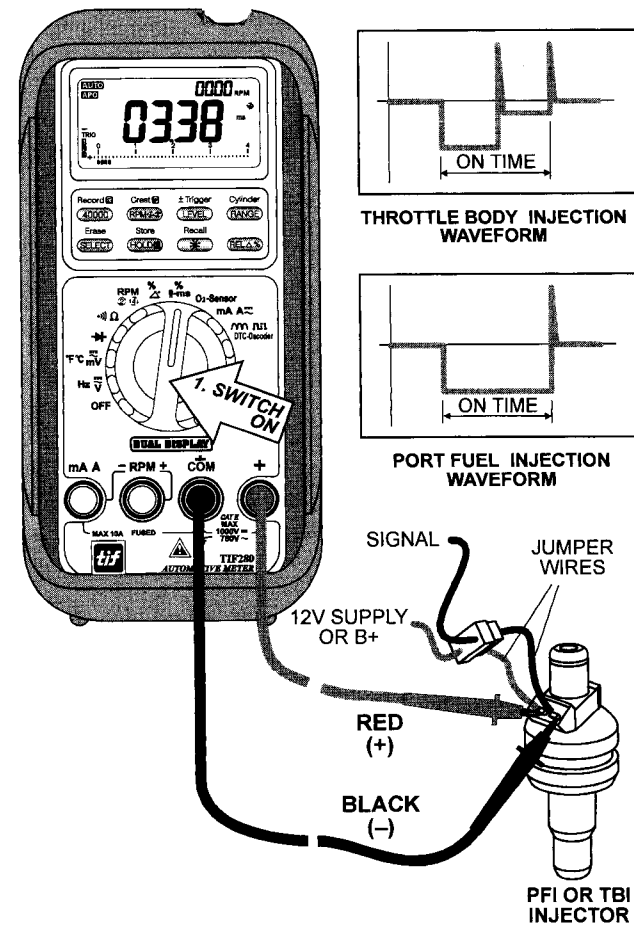

FIG 10. FUEL INJECTION DETECTOR
- 3) Connect the test leads as shown in **FIG 10** and observe the digital display